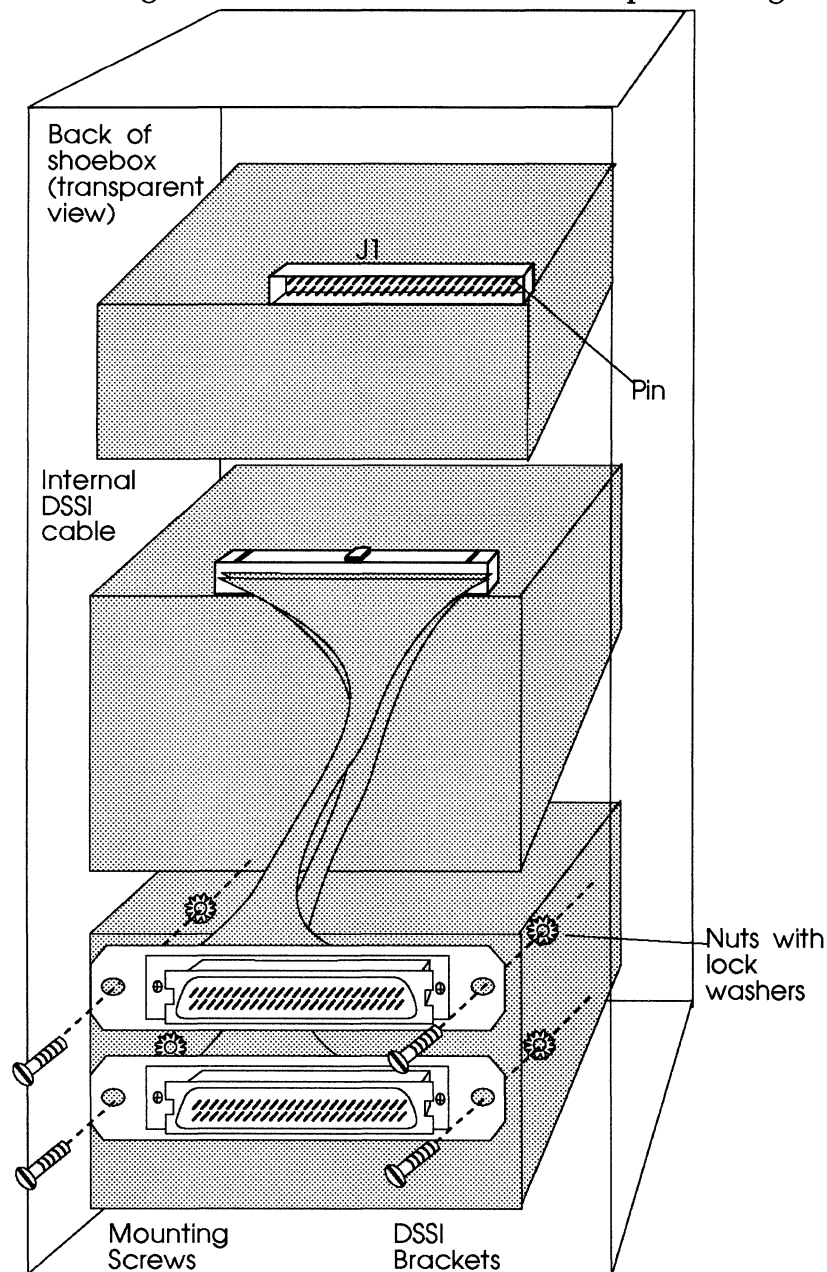
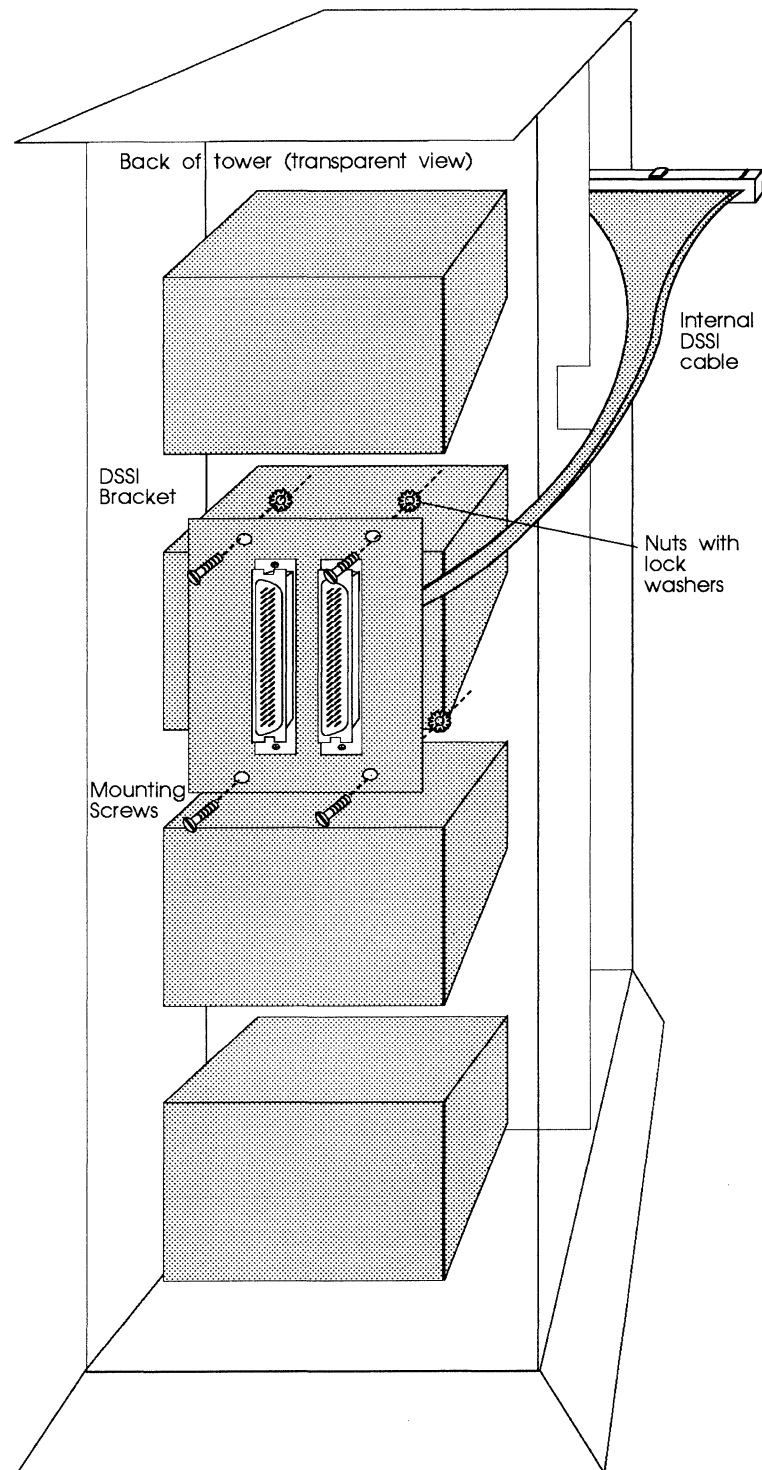

Figure 7-2: Installing the DSSI bracket
Figure 7-10: Installing the DSSI bracket
- 8 Put mounting screws into the shoebox through the DSSI bracket(s) and secure them with the nuts with lock washers. For high-density Honda cut-outs, see Figure 7-2. For a DSSI bracket example, see Figure 7-10.
- 9 Connect the internal DSSI cable from the DSSI bracket to the CDI-4000 at J1, DSSI port; see Figure 7-2.
- 8 Put four mounting screws into the tower chassis through the DSSI bracket and secure them with the nuts with lock washers as shown in Figure 7-10.
- 9 Connect the internal DSSI cable from the DSSI bracket to the CDI-4000 at J1, DSSI port; see Figure 7-10. Route the internal DSSI cable on the side of the SCSI drives and through the notch in the tower chassis.